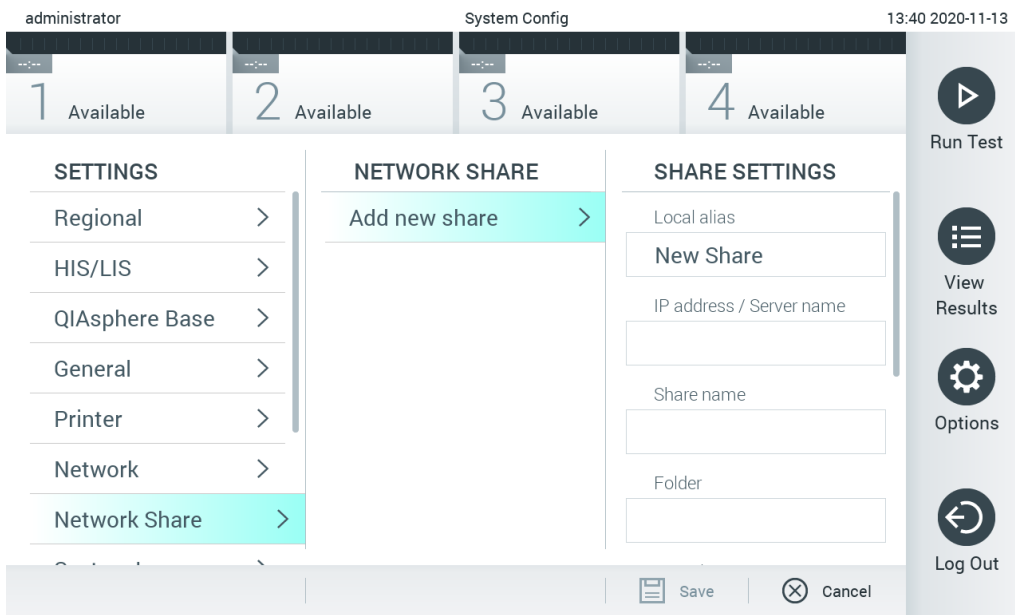

Figure 76. Adding a network share.
3. Press the **Add new share** button (Figure 76).